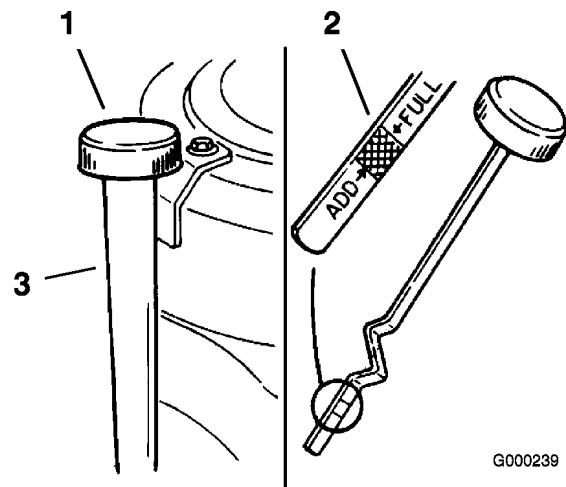

Figure 36
4. Clean around the oil dipstick (Figure 36) so that dirt cannot fall into the filler hole and damage the engine.
5. Unscrew the oil dipstick and wipe the end clean (Figure 36).
6. Slide the oil dipstick fully into the filler tube, but do not thread onto tube (Figure 36).
9. Slowly pour approximately 80% of the specified oil into the filler cap (Figure 36).